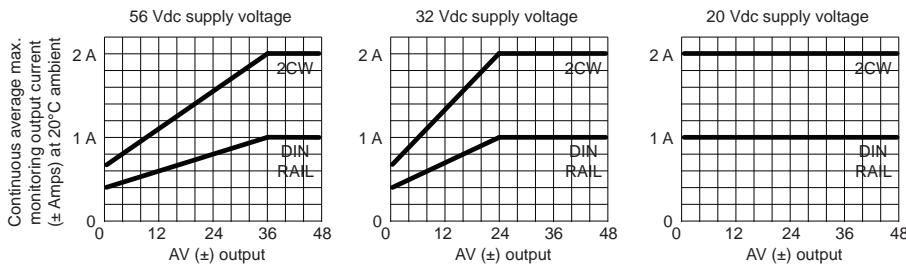

Figure 3 Performance graphs
- The upper traces in the graphs (Figure 3) show the performance with a 2°C/W heatsink (a unit fixed to a panel of approximately 200 x 200 mm).